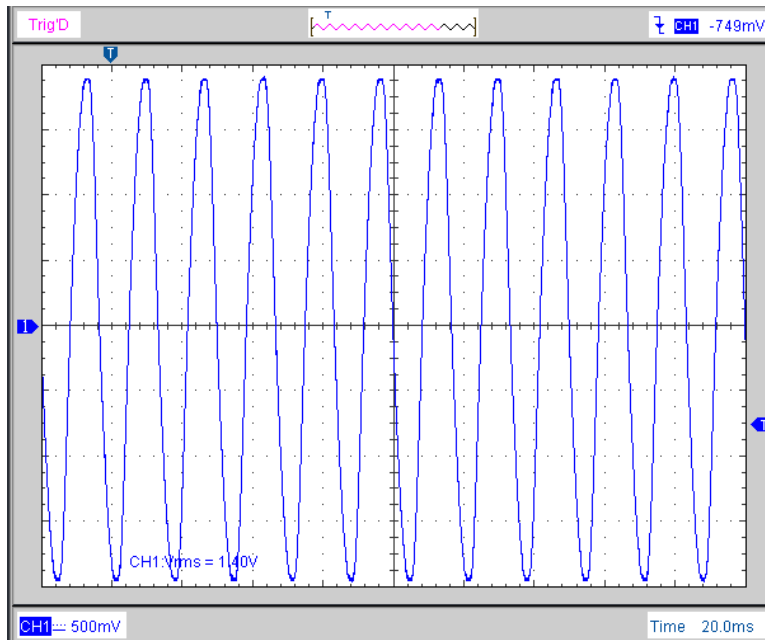

Figure 5. Sine Wave Output on CDT-240 BNC.
5.1.3. Press the test button once to ARM the CDT. You should see a sine wave signal on the oscilloscope as it shows it in **Figure 5**.
5.3.3. Press the test button once to ARM the CDT. You should see clean AC on the oscilloscope as it shows it in **Figure 5**.